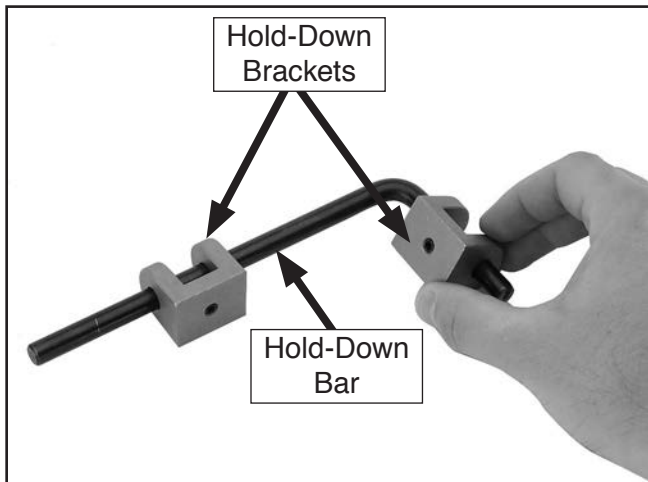

Figure 26. Brackets on hold-down bar.
1. Slide two hold-down brackets onto each of the hold-down bars (one on the short arm, one on the long arm), as shown in **Figure 26**.